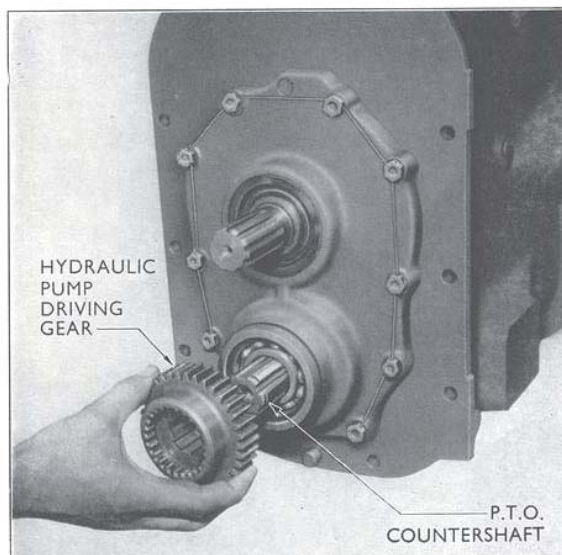

Fig. 16
8. Replace the hydraulic pump driving gear (see Fig. 16), retaining it to the countershaft with the appropriate circlip.